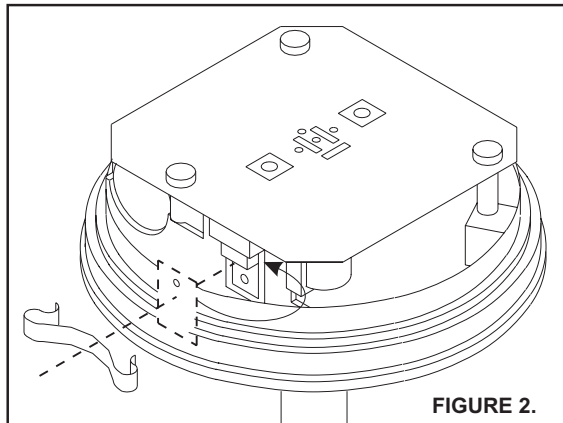

FIGURE 2.
**FIGURE 2.** Slightly bend the transistor on the power supply away from the transistor mounting boss. Slip the Cho-Therm insulator behind the transistor with the hole directed towards the top (see figure 4 "A"). Position the top of the Cho-Therm insulator against the circuit board of the power supply assembly, making sure that some of it shows below the transistor (See figure 4 "B"). It is important that the transistor on the power supply assembly does not contact the transistor mounting boss at any place, as to prevent a damaging electrical short circuit between the strobe light power supply and the cast aluminum base.